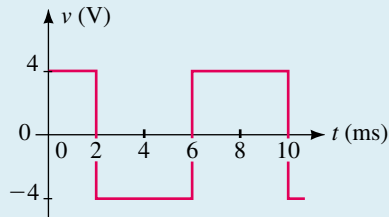

FIGURE 25-21
EXAMPLE 25-4 Write the Fourier expression for the first four nonzero sinusoidal terms of the waveform shown in Figure 25-21.
Step 3: The waveform of Figure 25-21 leads the square wave of Figure 25-13 by an amount equivalent to $t = 2$ ms. This corresponds to a phase shift of
Step 4: The Fourier expression for the first four terms of the waveform of Figure 25-21 is now written as follows: